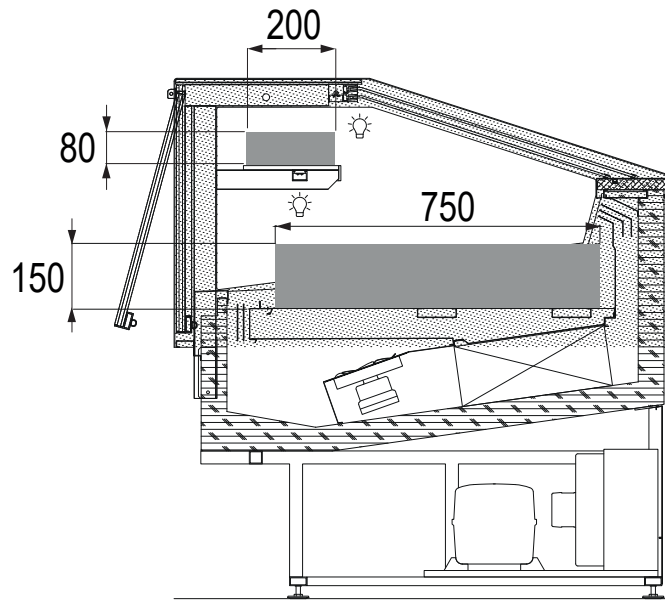

fig. 7
- arrange the product evenly, avoiding empty areas (fig. 7)